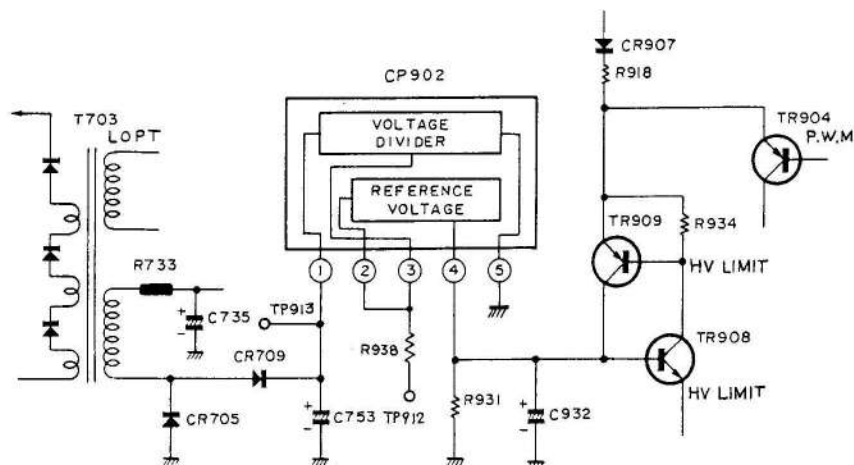

Fig. 4 HV (EHT) limit circuit
Fig. 4 shows this circuit, adopted in NP6C chassis.
- 1) Connect between TP-912 and TP-913 with a short link. — Fig. 4